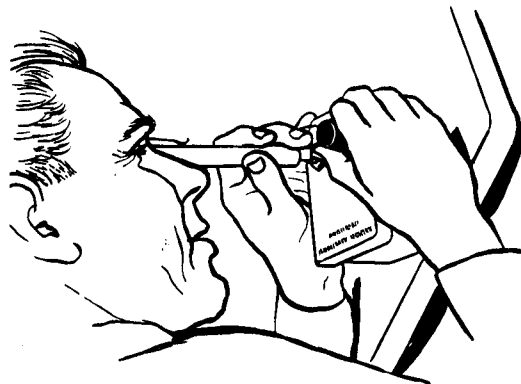
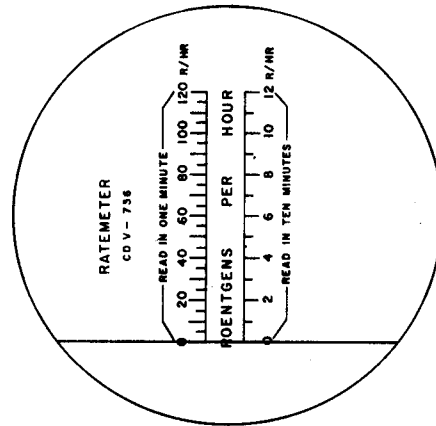

FIGURE 1. — METER HELD IN ZEROING (CHARGING) POSITION ON CHARGER CD V-756
FIGURE 2. — RATEMETER SCALE WITH HAIRLINE INDICATOR AT ZERO
To zero either the CD V-736 or the CD V-746, place the end of the meter opposite the pocket clip over the charging contact on the CD V-756 dosimeter charger. (See fig. 1.) Press down gently and the light will come on showing the location of the hairline indicator on the meter scale. (At times the indicator may be off the scale and out of view before adjustment.) By pressing harder, contact is made with the charging circuit, and the hairline indicator can be moved across the meter scale by turning the charger down-scale/up-scale control in the proper direction. Adjust the hairline indicator until it is over the zero mark on the meter scale. (See fig. 2.) Remove the meter from the charging contact. Check the meter reading immediately to see that the indicator has not shifted. If it has, zero the meter again. It may require practice to zero the meter properly.
TO READ DOSIMETER (EXCEPT CD V-138 & CD V-736 BY USING CHARGER LIGHT (see Figure 2))
2. To read CD V-138 & CD V-736 or any dosimeter of less than 0-5R range (see Figure 2), turn voltage control all the way "up scale" then read dosimeter as above.